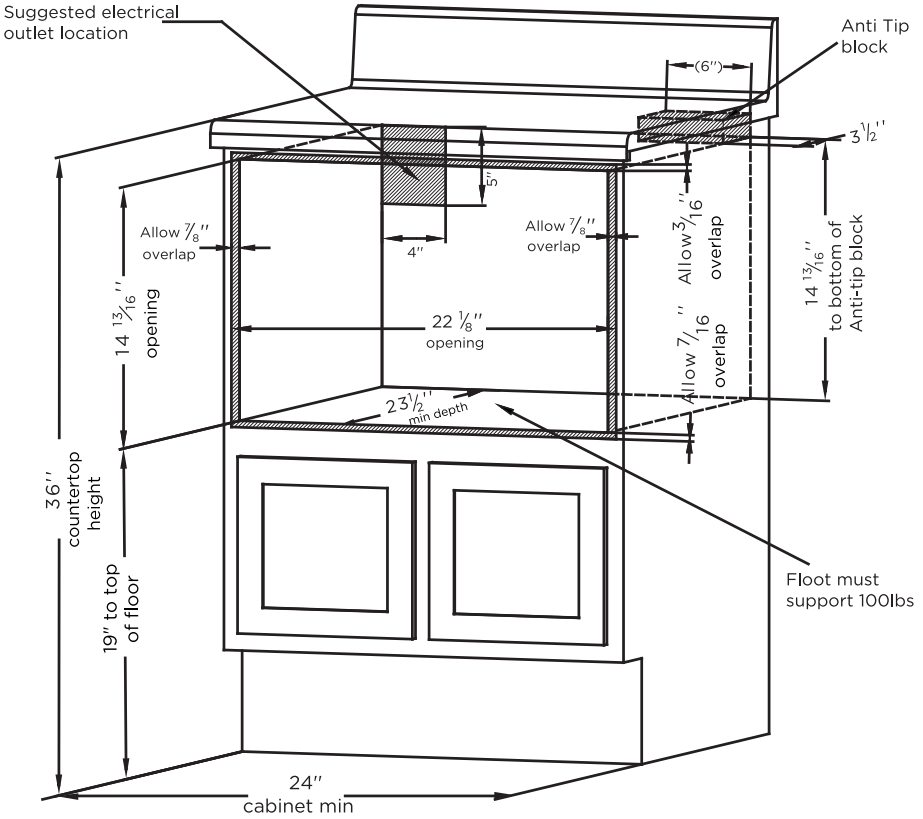
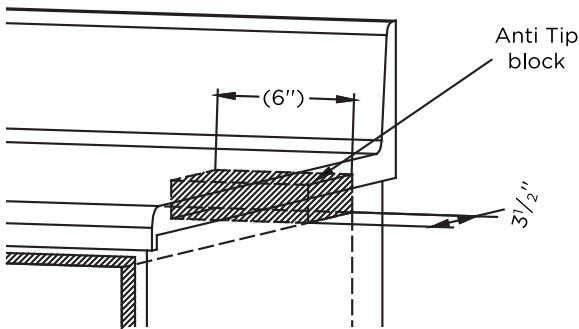

Figure 1
Figure 3
For SAFETY CONSIDERATIONS do not install drawer in any combustible cabinetry, which is not in accord with the stated clearances and dimensions on pages 15. See Figure 1.
- Dimensions that are shown in Figure 1 must be used. Given dimensions provide minimum clearance. Locate electrical outlet in the shaded area in the upper left-hand corner of the cutout. See Figure 3.
Figures 1 and 2 contain many Microwave Drawer measurements for reference when planning the drawer's location. This Microwave Drawer can be installed below any electric or gas wall oven.
ANTI-TIP BLOCK INSTALLATION INSTRUCTIONS To reduce the risk of tipping of the drawer, the Anti-Tip block must be properly installed located 14 13/16-inches above the floor on which the Microwave Drawer will sit. The 6-inch Anti-Tip block must be provided by the installer. See Figures 1 and 3. The Anti-Tip block prevents serious injury that might result from spilled hot liquids.